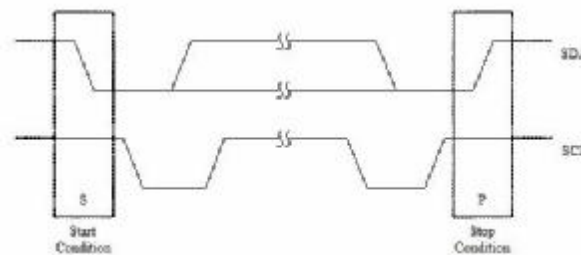

Figure 2.1 Start and Stop conditions
- I Start and stop condition : A high to low transition of the SDA line while SCL is high defines a start condition. A low to high transition of the SDA line while SCL is high defines a stop condition. Please refer to Figure 2.1.